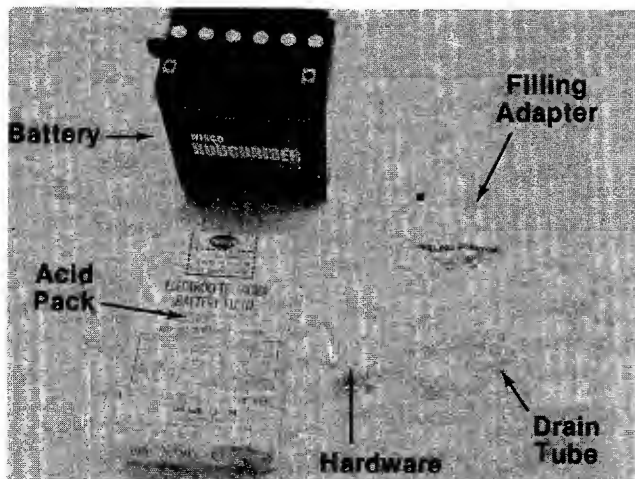

FIGURE 4.
- 1. Upon opening the battery pack, you should receive acid pack, battery, drain tube, filling adapter and hardware. See figure 4.